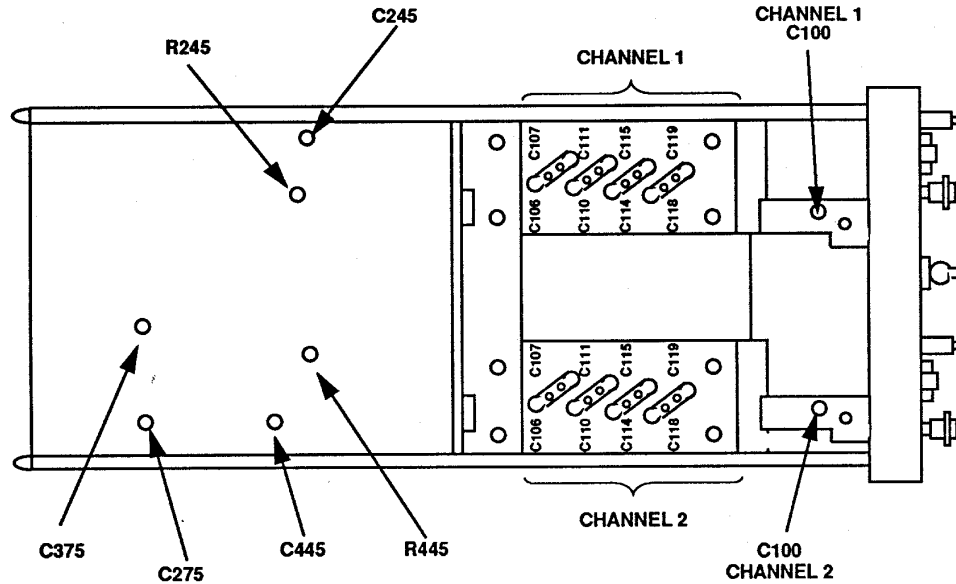
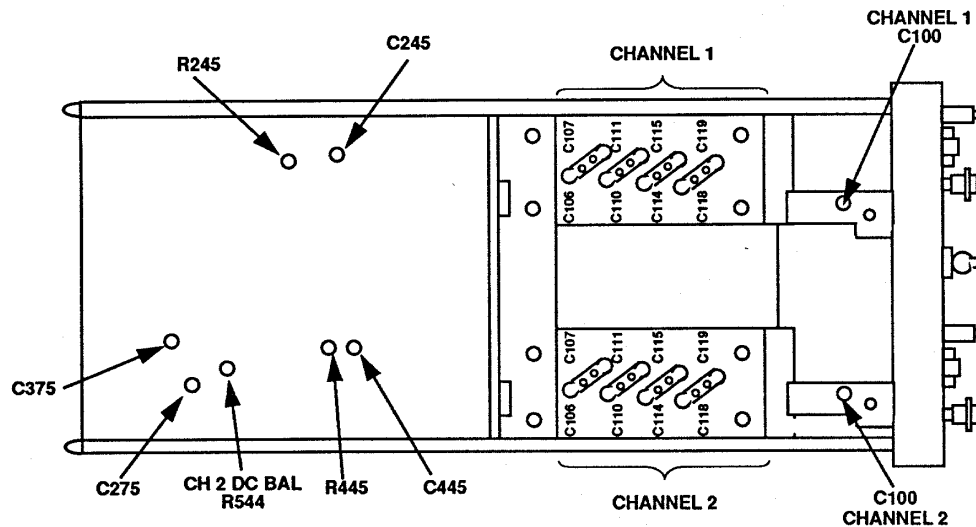

Figure 1. AM688/U (Tektronix, Type 7A18) - left side view.
Figure 2. Tektronix, Type 7A18A and 7A18A w/option 06 - left side view.
(16) Deenergize oscilloscope and remove TI from left vertical compartment and reinstall, using extender.
(17) Energize oscilloscope.
(18) Set **CH 1 VOLTS/DIV** switch to **5 mV** and **DISPLAY MODE** switch to **CH 1**.
(19) Ensure oscilloscope calibrator **CHAN 1** is connected to **CH 1** using a 5-80 pF standardizer. Press oscilloscope calibrator **CHANNEL** pushbutton and press blue soft pushbutton located below **CHAN 1**.
(20) Set oscilloscope calibrator **EDGE** output frequency to 1 kHz.
(21) Adjust oscilloscope calibrator output for 6 divisions of display.
(22) Adjust standardizer for optimum square wave. If optimum square wave cannot be obtained, adjust **CHANNEL 1 C100 (CH 2 adjust C100 CHANNEL 2)** (fig. 1 or 2) to midrange and readjust standardizer for optimum square wave.
Use figure 1 for AM-6880/U (Tektronix, Type 7A18), and figure 2 for Tektronix, Type 7A18A and 7A18A w/option 06.
VOLTS/DIV switch settings	CH 1 and CH 2 adjustments (fig. 1 or 2) 1
(2) Connect oscilloscope calibrator **CHAN 1** to TI **CH 1** using a 50 $\Omega$  feedthrough termination. Set oscilloscope output to **CHAN 1** using technique in (11) above.
(3) Set **DISPLAY MODE** switch to **CH 1** and **CH 1 VOLTS/DIV** switch to **10 mV**.
(4) Set oscilloscope calibrator to **EDGE**, and output to 60 mV at 1 kHz.
(5) Adjust **CH 1 POSITION**, oscilloscope, and time base controls as necessary to view waveform.
(6) Rotate oscilloscope calibrator knob located below **EDIT FIELD** pushbutton to obtain 6 divisions on oscilloscope display. If aberrations are not less than 0.24 divisions peak-to-peak, adjust **R245**, **C245**, and **C275** (**CH 2** adjust **R445**, **C445**, and **C375**) (fig. 1 or 2) for optimum square wave with aberrations of less than 0.24 divisions peak-to-peak (R).
(7) Repeat technique of (2) through (6) above for **CH 2**.